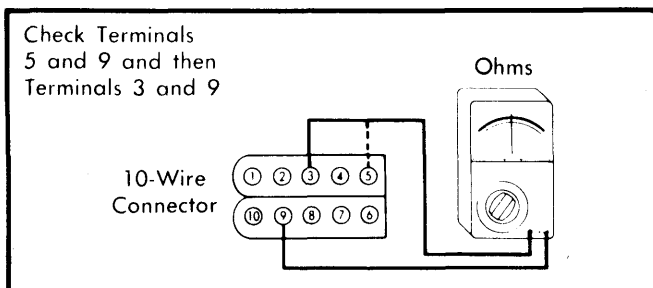

Fig. 13 Ohmmeter Hook-Up for Checking Pick-Up Coil Resistance
10) Turn ignition switch off. Attach ohmmeter leads to terminals 5 and 9 of 10-wire harness connector to check run pick-up coil resistance and to terminals 3 and 9 to check start pick-up coil resistance. See Fig. 13. Resistance should be 150-900 ohms. If so, proceed to step 12).